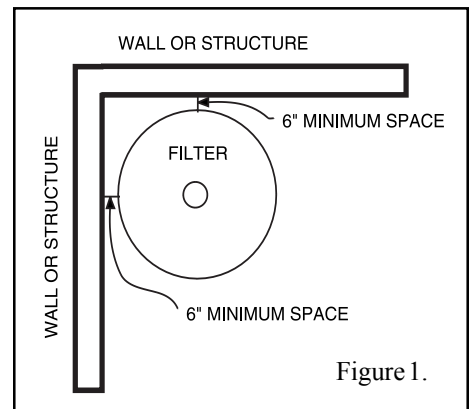

Figure 1.
2. Install electrical controls (e.g., on/off switches, timers, control systems, etc.) at least five (5) feet from the filter. This will allow you enough room to stand clear of the filter during system start up.
3. Provide sufficient clearance around the filter to permit visual verification that the clamp is properly installed, see Figure 1.